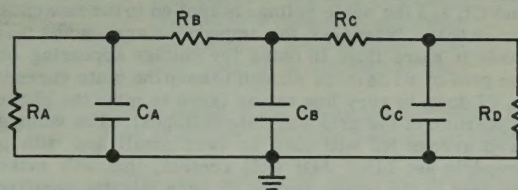

Fig. 2-3. Example
- d. When two or more capacitors are connected in an RC-type network (see figure 2-3), the capacitors next to the measured one should be shorted to eliminate possible errors. Of